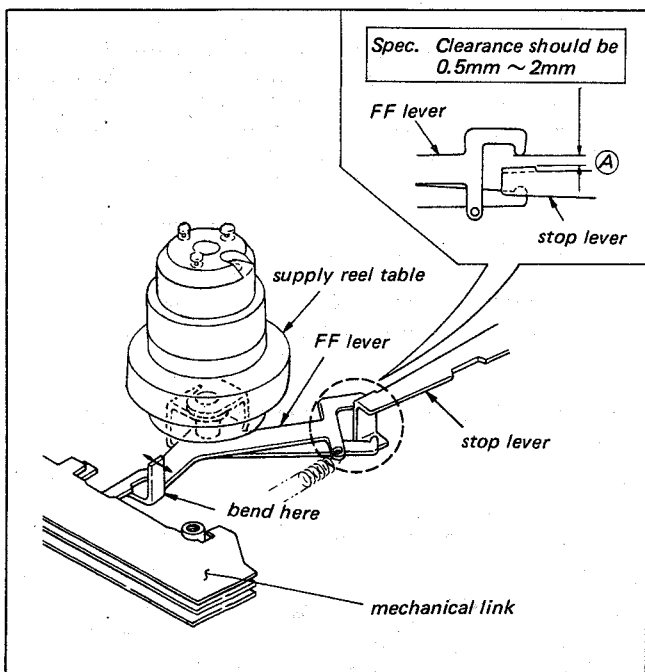

Fig. 4-28. Supply tension regulator pin movable range adj. (FF mode without tape)
2. Check to see that the clearance (A) in Fig. 4-28, between the Stop Lever and the F-F Lever is 0.5mm ~ 2.0mm. If not, adjust it by bending the F-F Lever.